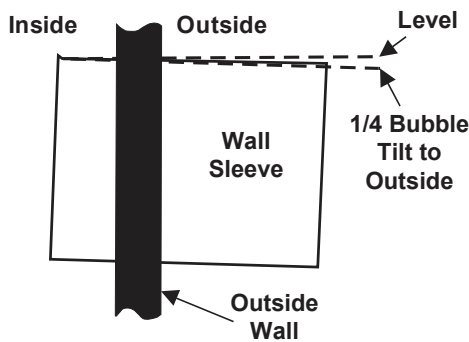

Fig 3 Proper Sleeve Tilt
- A slight downward pitch from the indoor side to the outdoor side as shown below(Fig 3).